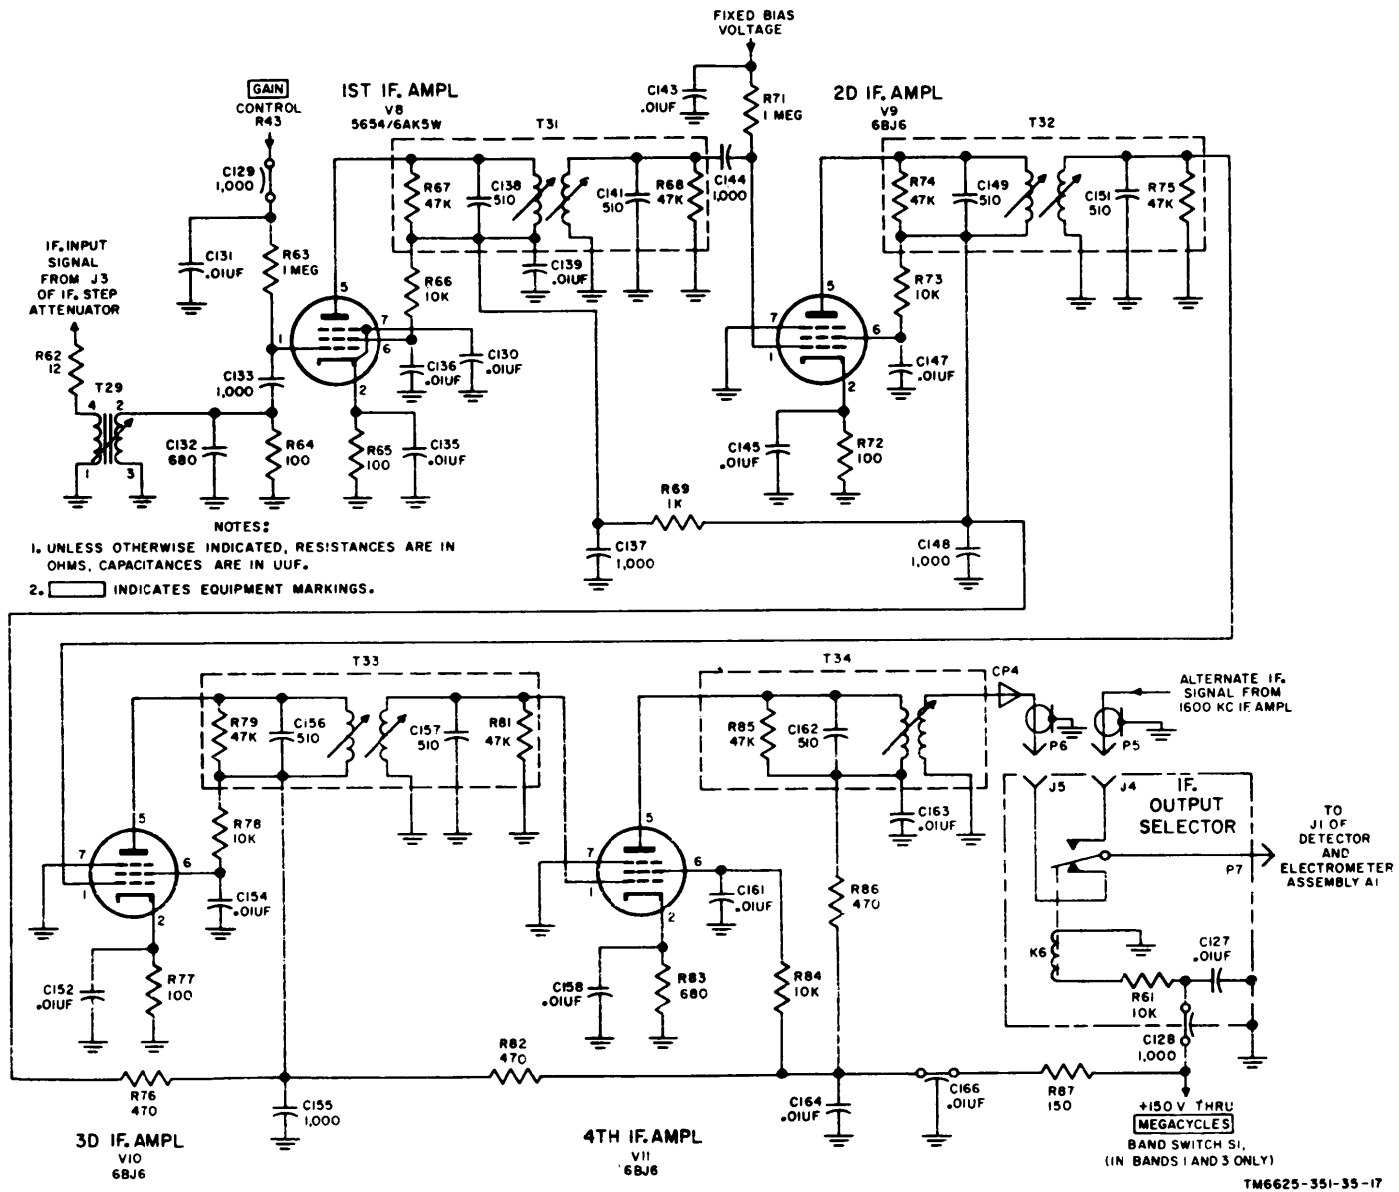

Figure 18. Tuning unit 1, 455-kc if. amplifier and if output selector.
- (2) When SIGNAL ATTENUATOR DB switch S701 is placed at 40, 60, and 80 DB, both relays K3 and K4 are energized. This action places resistors R34 and R36 in series with the signal path, with the other resistors in the ladder network still retaining their shunting effect. The result is a 20-db increase in signal attenuation with respect to the deenergized condition of both relays K3 and K4. (Actually, the signal is attenuated 26 db relative to the original incoming signal level because of the inherent 6-db loss of the step attenuator subassembly.)
29. If. Amplifier, 455-Kc, Detailed Analysis (fig. 18)
(fig. 18)